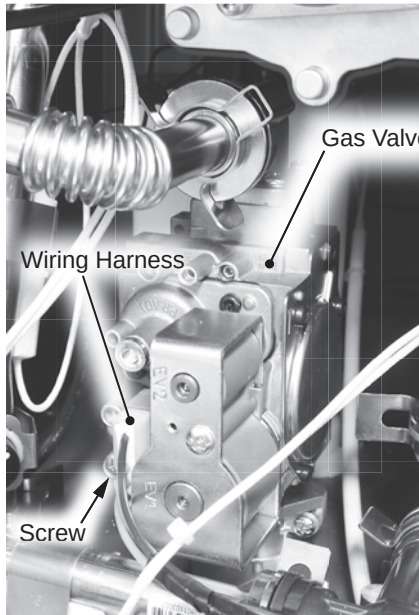

Figure 58 - Gas valve wiring harness location.
- 12 Locate the screw securing the wiring harness to the gas valve. See Figure 58. Use a Phillips screwdriver to remove the screw and place it aside in a safe place for reinstallation.